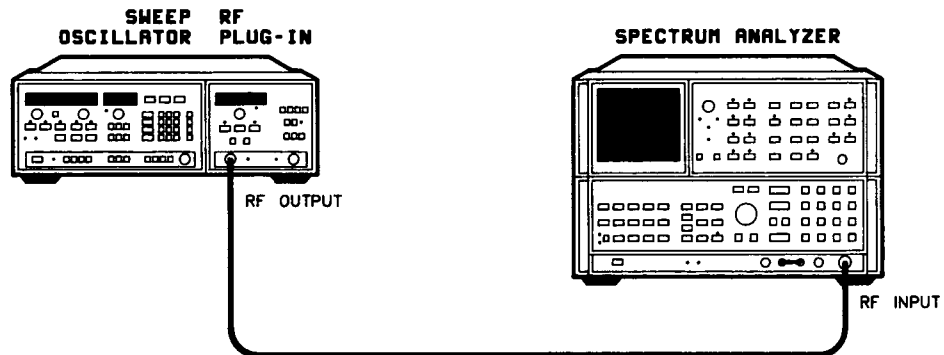

Figure 4-4. Frequency Stability Test Setup
1. Connect the equipment as shown in Figure 4-4. Turn the equipment on. On both the sweep oscillator and the spectrum analyzer, press **[INSTR PRESET]**, and allow one hour warm up.